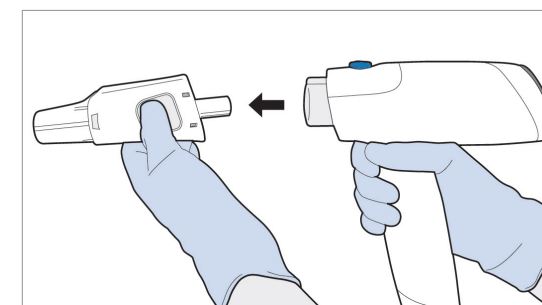

Figure 64 Remove Array from Handset
1. **Remove the used Array from the Handset (see Figure 64).**